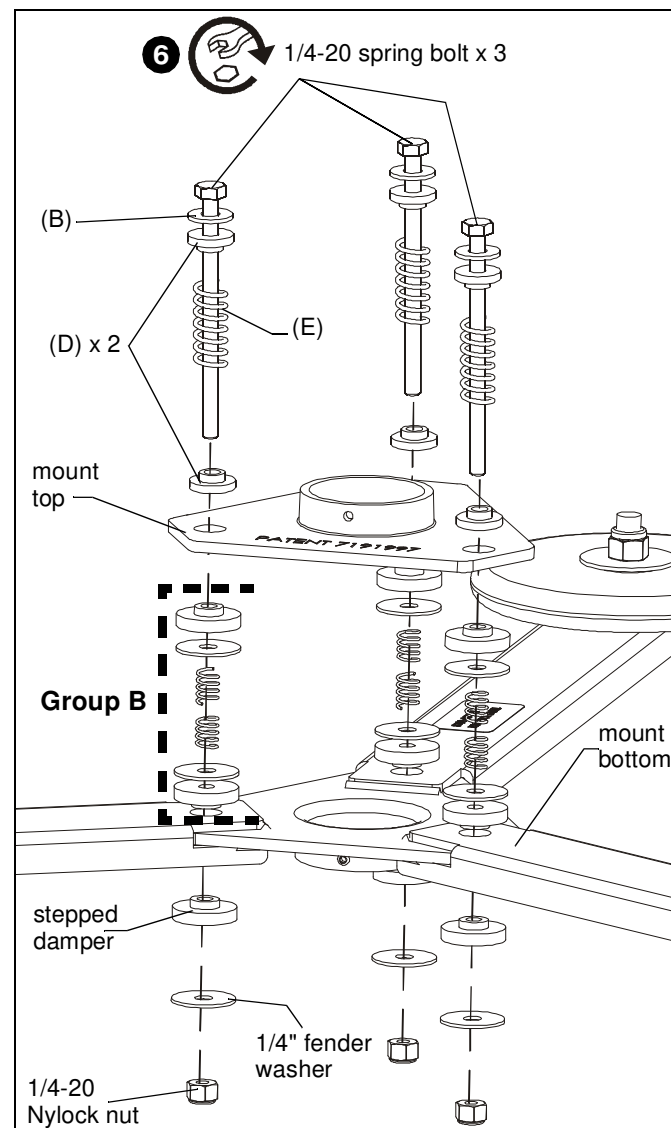

Figure 3
3. Install one 1/4" machine washer (B), two vibration bushings (D), and one long heavy gauge spring (E) onto 1/4-20 spring bolt. (See Figure 3)
4. Insert 1/4-20 spring bolt with washers and bushings through mount top (A), Group B hardware, and mount bottom (A). (See Figure 3)
4. Insert 1/4-20 spring bolt with washers and dampers through mount top (A), Group B hardware, and mount bottom (A). (See Figure 3)